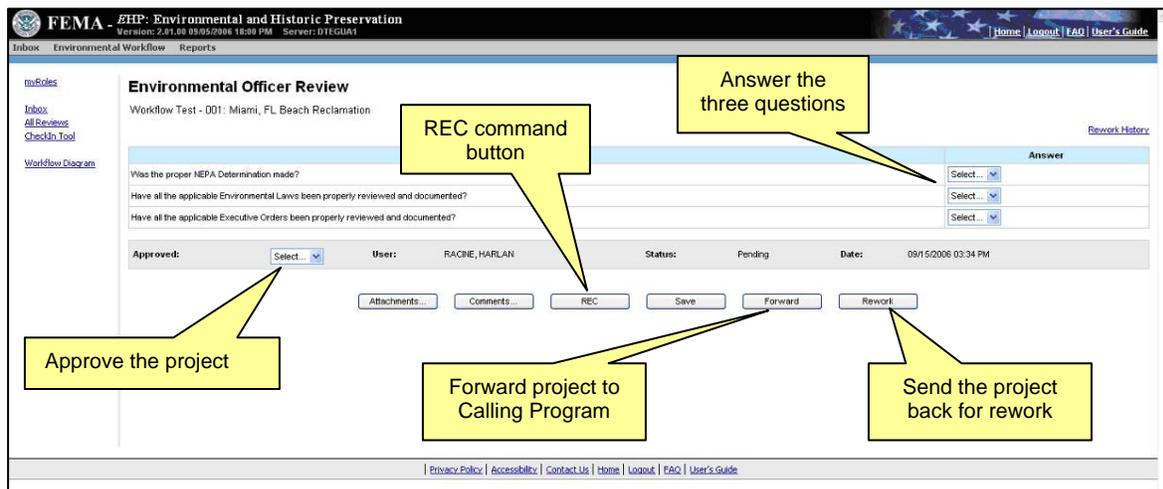

Figure 5.1: EO Review
- Answer the three questions regarding the quality of the Technical Reviews (Figure 5.1).
To rework a project, navigate to the *Rework Request* screen by selecting the **Rework** command button on the Environmental Officer Review screen (Figure 5.1).